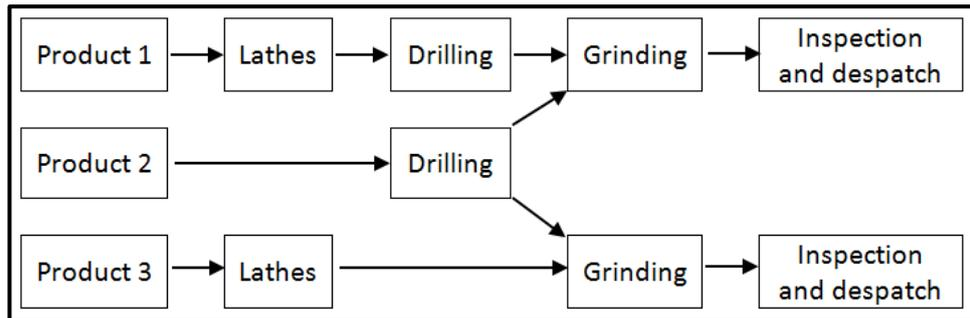

FIGURE 2.3.1
- 2.3 Identify the workshop layouts shown in FIGURES 2.3.1 and 2.3.2 below.